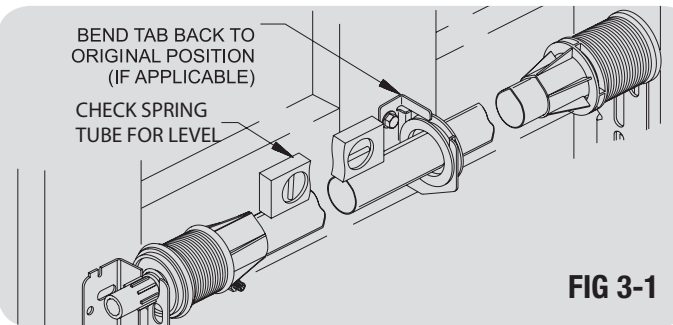

FIG 3-1
- 4 Check tube for level and adjust as needed. Bend center bracket tab back over center bushing (if applicable) - **FIG 3-1**